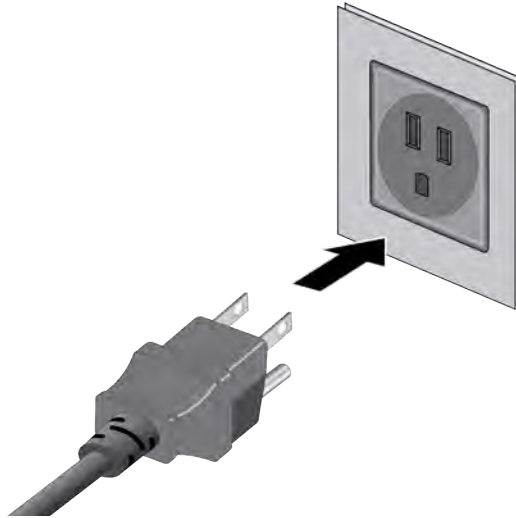

Figure 53. Plugging in the AC Power Cord to an AC Source
4. Connect the power cord to an appropriate AC power source. Refer to Figure 53 on page 142.